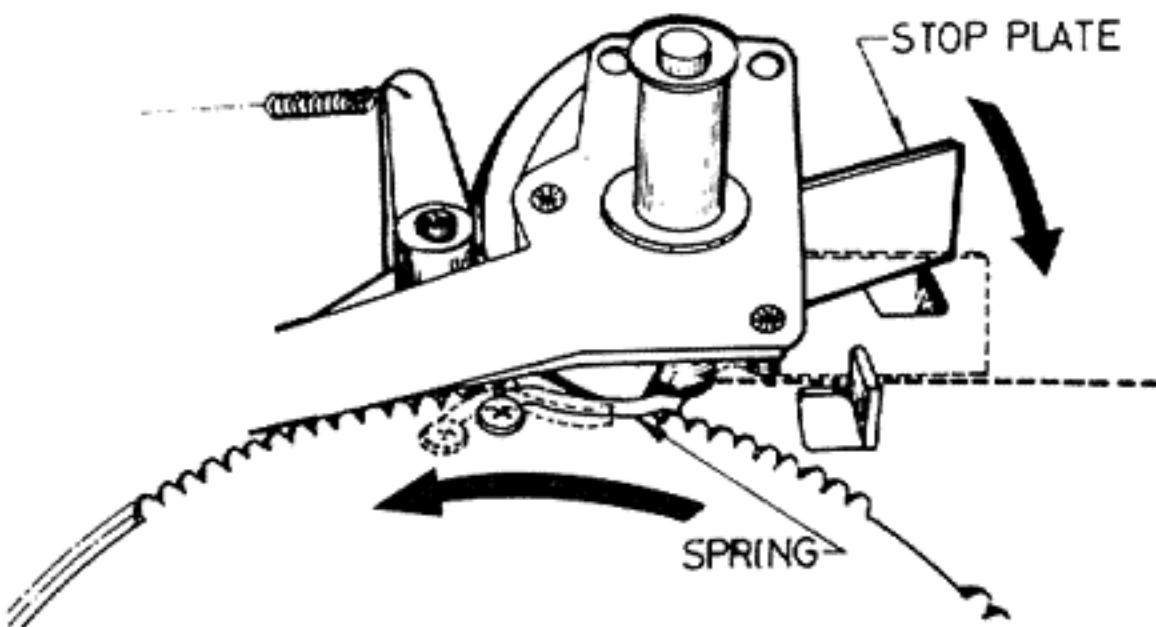

Fig. 11
- 4) The stop plate must be in the position shown by the dotted line when the next disc is to be played. To locate it in place, pull the "START" lever, and the gearing will begin to rotate. The stop plate will be moved to the correct position by means of a spring on the gearing. It is ready for the next auto-up function. (Fig. 11)